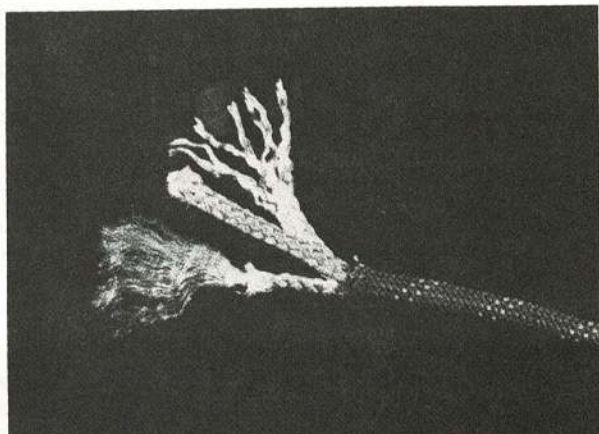

Fig 6 Kernmantel Rope
7. In Europe another kind of rope is popular and, now that we are in the Common Market, you may come across it from time to time. It is called Kernmantel rope (Fig 6). This type could be twisted or it could have a very large number of filaments running more or less straight down the length of the rope. In either case the inner core of filaments is contained in a braided sheath — thus it is sometimes called "core-and-sheath" rope, which is what its German name means. When the filaments are twisted into yarns they are not twisted as tightly as vegetable fibre; the yarns are plaited into strands and the three strands are laid straight together. The Kernmantel rope is very strong; the outside cover gives some protection against damage when running out over a rough surface, and it has comparative freedom from twisting, but it can be springy and knots tied in it can tend to work loose. Also, it can be damaged or even broken inside its braided cover and a cursory inspection of its outside surface would not reveal this dangerous state. Thus, when this type of rope is used it is usual to keep a log in which the use to which it has been put is recorded so that any incident likely to cause internal damage can be made known to any other user.